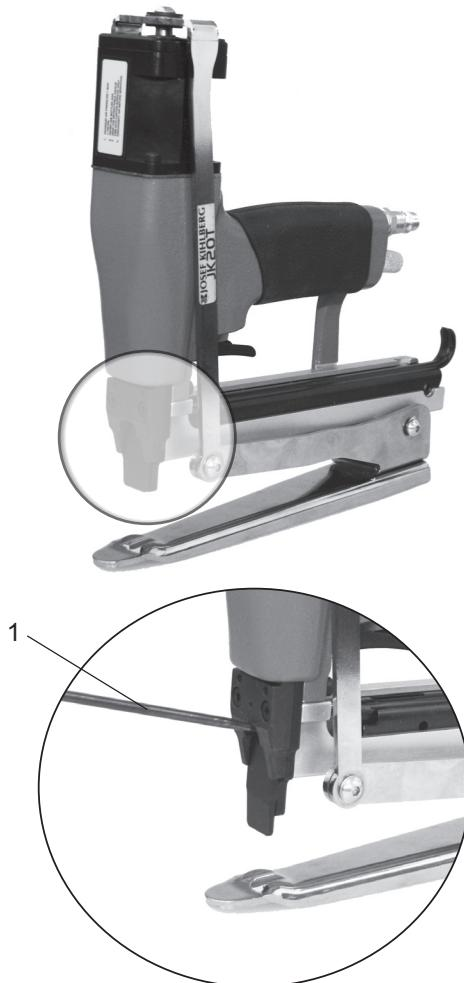

Fig. 5
- Pry the door open with a screw driver (Fig. 5/1). There are three notches in the door to simplify the disassembling.